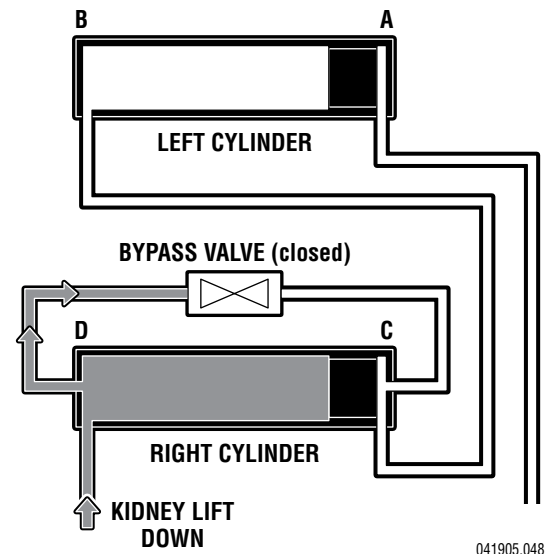

Figure 3-10.
1. Remove the kidney lift top section and begin the procedure with both pistons in the down position (chambers A & C) as shown in figure 3-10.
2. Make sure the bypass valve is closed (valve screw tight) and activate "KIDNEY DOWN". The hydraulic fluid will fill cavity "D" as shown in figure 3-10.